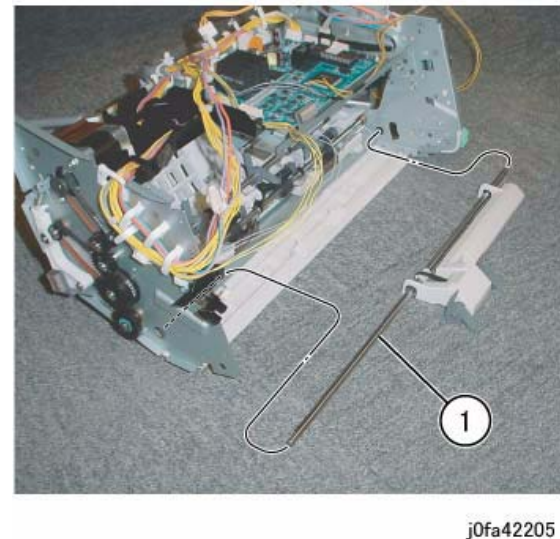

Figure 5 Removing the Paddle Link Assembly (j0fa42205)
7. Remove the Paddle Link Assembly. (Figure 5)